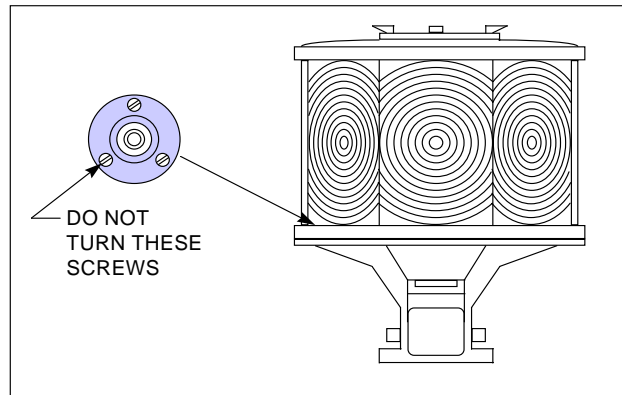

Figure 3-45
- f. Remove the access hatch, rotate the lens cage and recheck the levelness of the beacon. The bubble should stay centered within the circle through an entire rotation of the lens cage, as shown in Figure 3-45. If not, center it the best you can through an entire rotation.